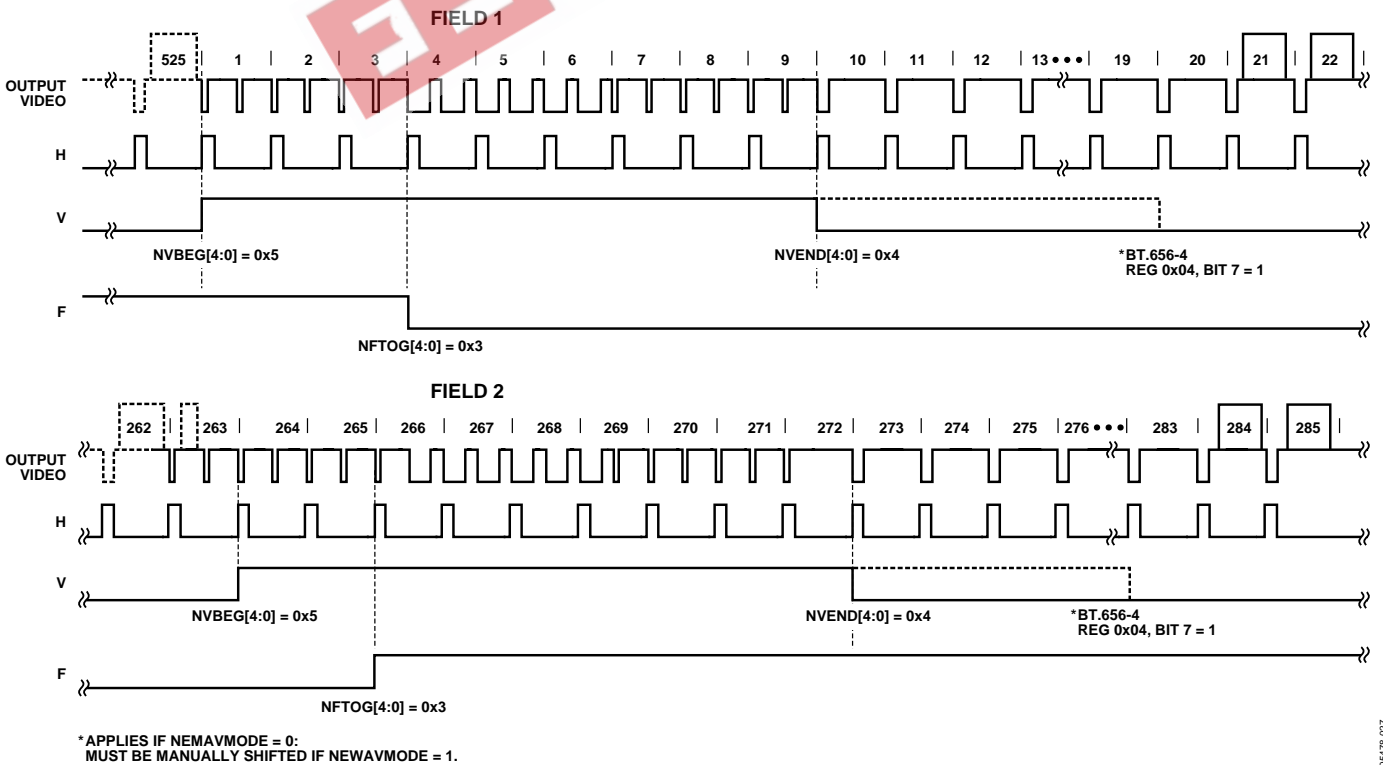
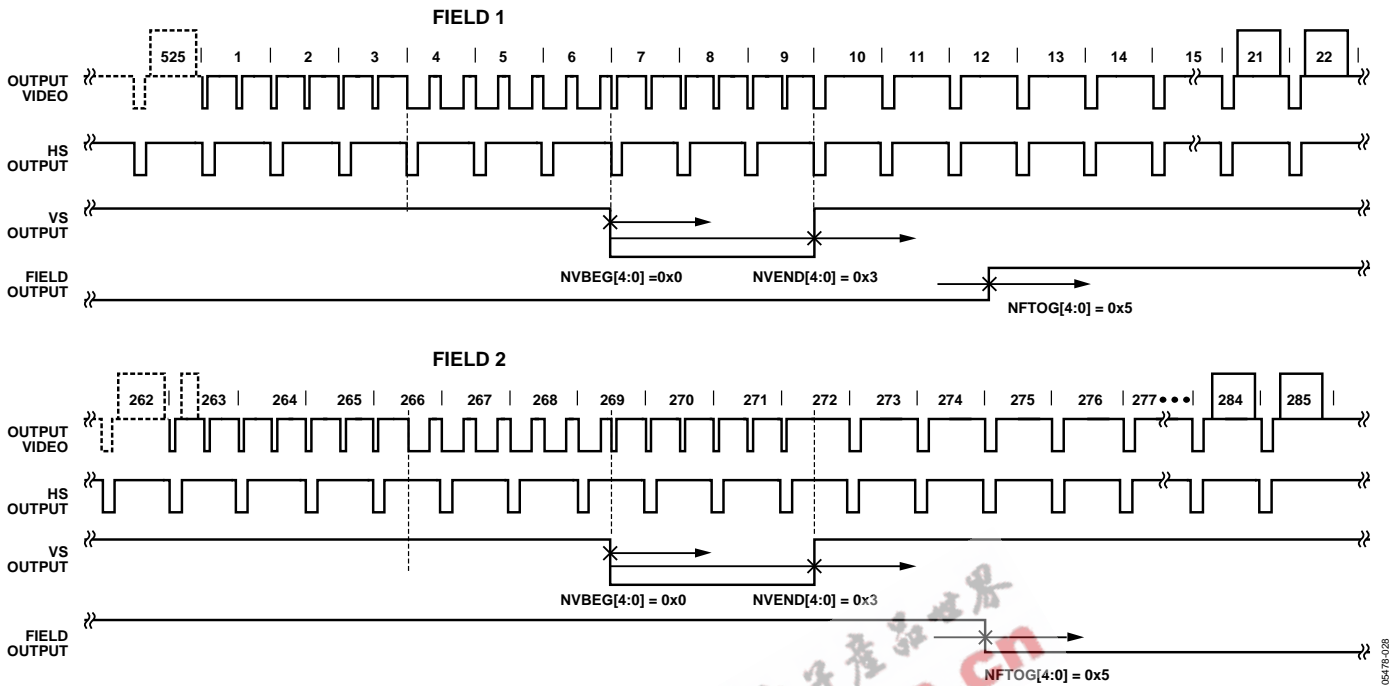

Figure 27. NTSC Default (BT.656). The Polarity of H, V, and F is Embedded in the Data.
Figure 28. NTSC Typical VSYNC/Field Positions Using Register Writes in Table 62
1 (default)—Enables the manual position of the VSYNC, Field, and AV codes using Register 0x34 to Register 0x37 and Register 0xE5 to Register 0xEA. Default register settings are CCIR656 compliant; see Figure 27 for NTSC and Figure 32 for PAL. For recommended manual user settings, see Table 62 and Figure 28 for NTSC; see Table 63 and Figure 33 for PAL.
**Table 62. Recommended User Settings for NTSC (See Figure 28)**